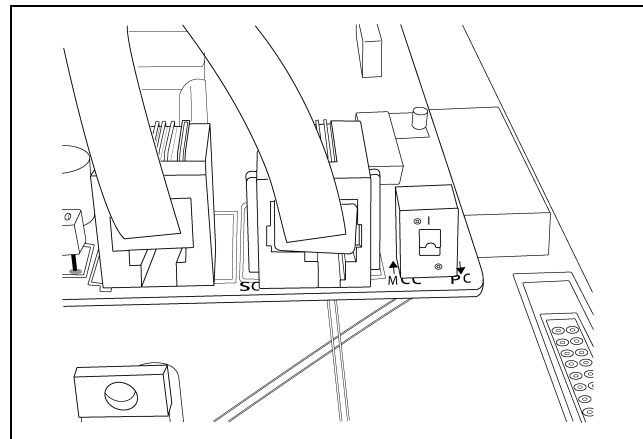

Figure 11E Dipswitch on modem board in up position.
4. Set the dipswitch on the modem board in the “UP” position. *(See Figure 11E on Page 41.)*